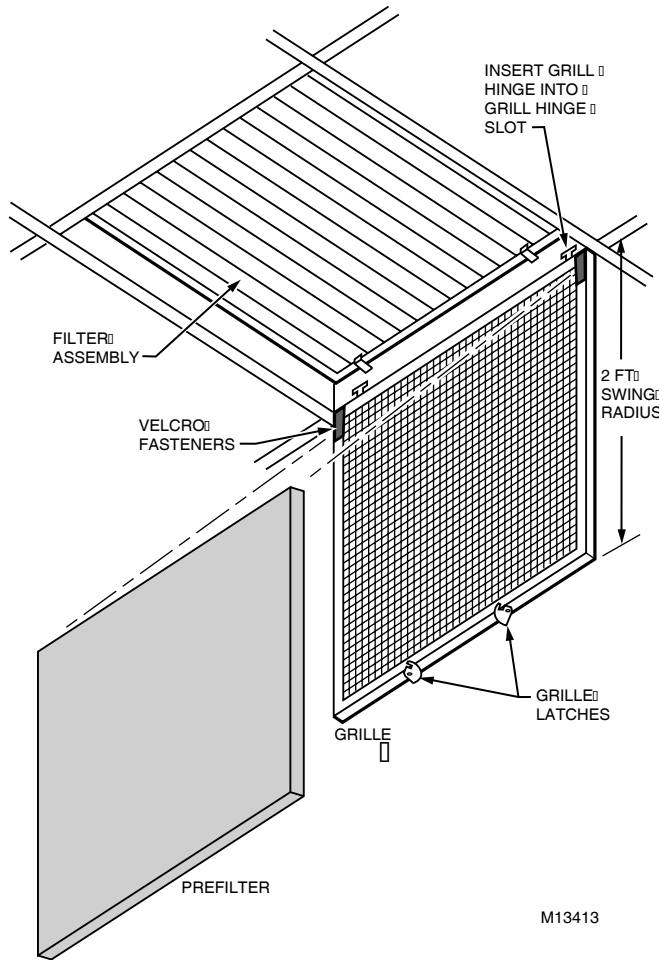

Fig. 10. Installing grille and prefilter.
1. Install the grille by inserting the grille hinge hooks into the opening in the return module. Be sure the grille hangs freely from the cabinet. See Fig. 10.
2. Install the prefilter by pressing the filter onto the velcro-fasteners at the top of the hanging grille. See Fig. 10.